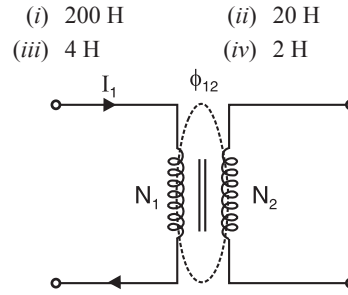

Fig. 9.47
27. If in Fig. 9.47,  $\phi_{12} = 2$  Wb,  $N_2 = 20$  and  $I_2 = 20$  A, then mutual inductance between the coils is .....
28. If in Fig. 9.47,  $N_1 = 100$ ,  $N_2 = 1000$  and mutual inductance between the coils is 2H, the reluctance of magnetic circuit is .....
30. The maximum mutual inductance between the coils shown in Fig. 9.47 is given by .....